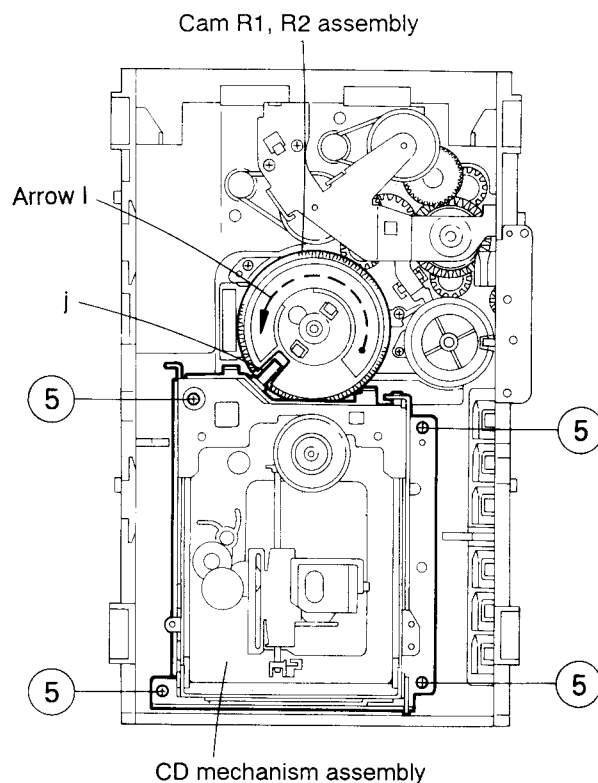

Fig. 5-24
■ Removing the CD mechanism assembly (See Fig. 5-24).
1. While turning the cams R1 and R2 assembly in the arrow direction (I), align the shaft (J) of the CD mechanism assembly to the position shown in Fig. 5-24.
2. Remove the four screws (5) retaining the CD mechanism assembly (See Fig. 5-24).